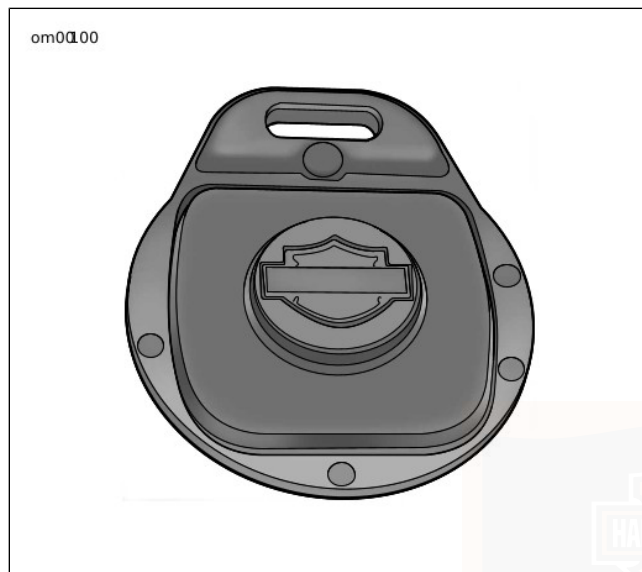

Figure 39. Key Fob Open Case: Front
1. See Figure 39. Place a thin blade between the 2 halves of the key fob case and slowly turn to open.